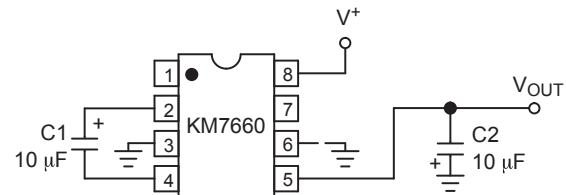
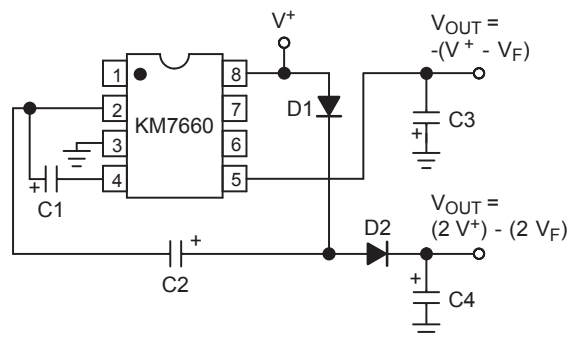
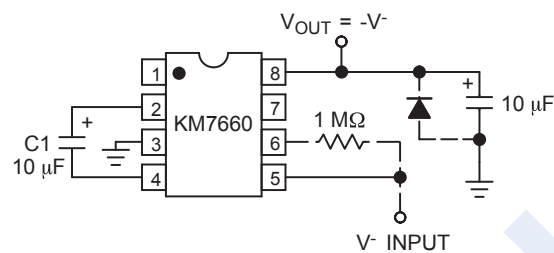
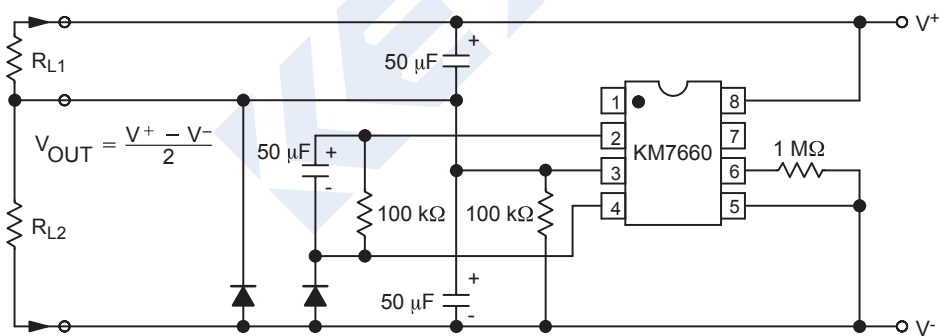

Figure 4. Simple Negative Converter
Figure 10. Combined Negative Converter and Positive Multiplier
Figure 11. Positive Voltage Conversion
Figure 12. Splitting a Supply in Half
Figure 4 shows typical connections to provide a negative supply where a positive supply is available. A similar scheme may be employed for supply voltages anywhere in the operating range of +1.5 V to +10 V, keeping in mind that pin 6 (LV) is tied to the supply negative (GND) only for supply voltages below 3.5 V.
The output characteristics of the circuit in Figure 4 are those of a nearly ideal voltage source in series with 70 Ω . Thus, for a load current of -10 mA and a supply voltage of +5.0 V, the output voltage would be -4.3 V.
Figure 10 combines the functions shown in Figures 4 and 9 to provide negative voltage conversion and positive voltage multiplication simultaneously. This approach would be, for example, suitable for generating +9.0 V and -5.0 V from an existing +5.0 V supply. In this instance, capacitors C_1 and C_3 perform the pump and reservoir functions, respectively, for the generation of the negative voltage, while capacitors C_2 and C_4 are pump and reservoir, respectively, for the multiplied positive voltage. There is a penalty in this configuration which combines both functions, however, in that the source impedances of the generated supplies will be somewhat higher due to the finite impedance of the common charge pump driver at pin 2 of the device.
Since the switches that allow the charge pumping operation are bidirectional, the charge transfer can be performed backwards as easily as forwards. Figure 11 shows a KM7660 transforming -5.0 V to +5.0 V (or +5.0 V to +10 V, etc.). The only problem here is that the internal clock and switch-drive section will not operate until some positive
voltage has been generated. An initial inefficient pump, as shown in Figure 10, could be used to start this circuit up, after which it will bypass the other (D_1 and D_2 in Figure 10 would never turn on), or else the diode and resistor shown dotted in Figure 11 can be used to “force” the internal regulator on.
The same bidirectional characteristics used in Figure 11 can also be used to split a higher supply in half, as shown in Figure 12. The combined load will be evenly shared between the two sides. Once again, a high value resistor to the LV pin ensures start-up. Because the switches share the load in